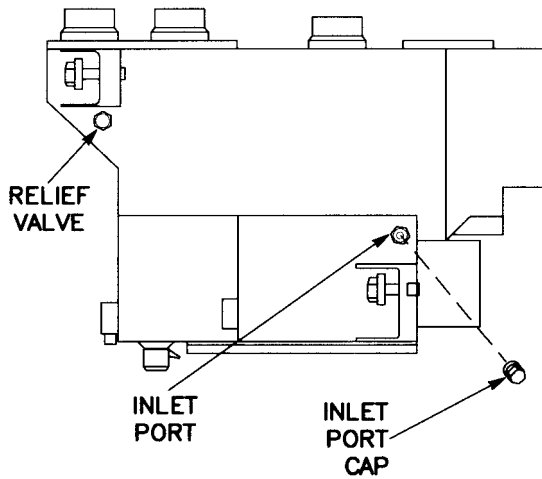

Figure 3-60 Gunner's Display
(2) Gunner's Display (fig. 3-60). Refer to para 3-13.i.(1) for procedures.